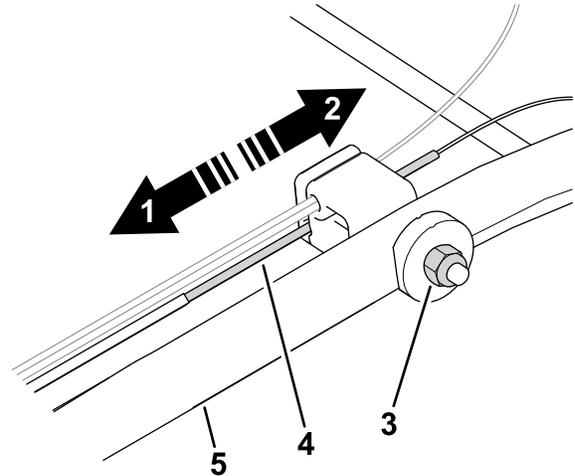

Figure 24
1. Turn the adjustment nut counterclockwise to loosen the cable adjustment (Figure 24).
2. Adjust the tension on the cable (Figure 24) by pulling it back or pushing it forward and holding that position.